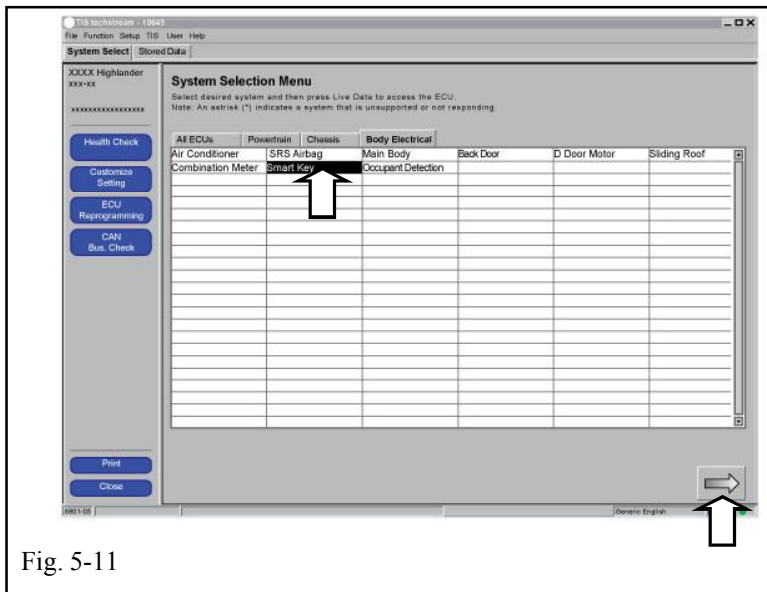

Fig. 5-11
- (t) Select Smart Key. (Fig. 5-11)
- (u) Click . (Fig. 5-11)